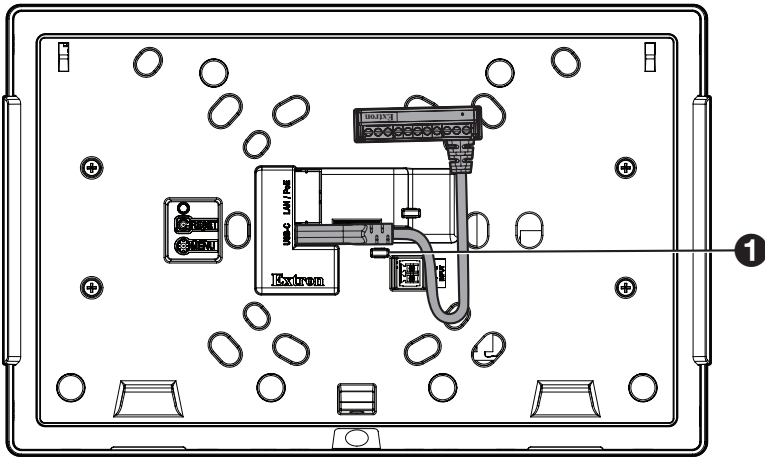

Figure 12. Mounting TLCA 2 to a Wall Mount Touchpanel
On the backside of the 535M, 835M, and 1035M touchpanels is a plastic slot (see figure 12, ❶) where a small zip tie (included with the TLP) can be used to secure the cable of the TLCA 2.